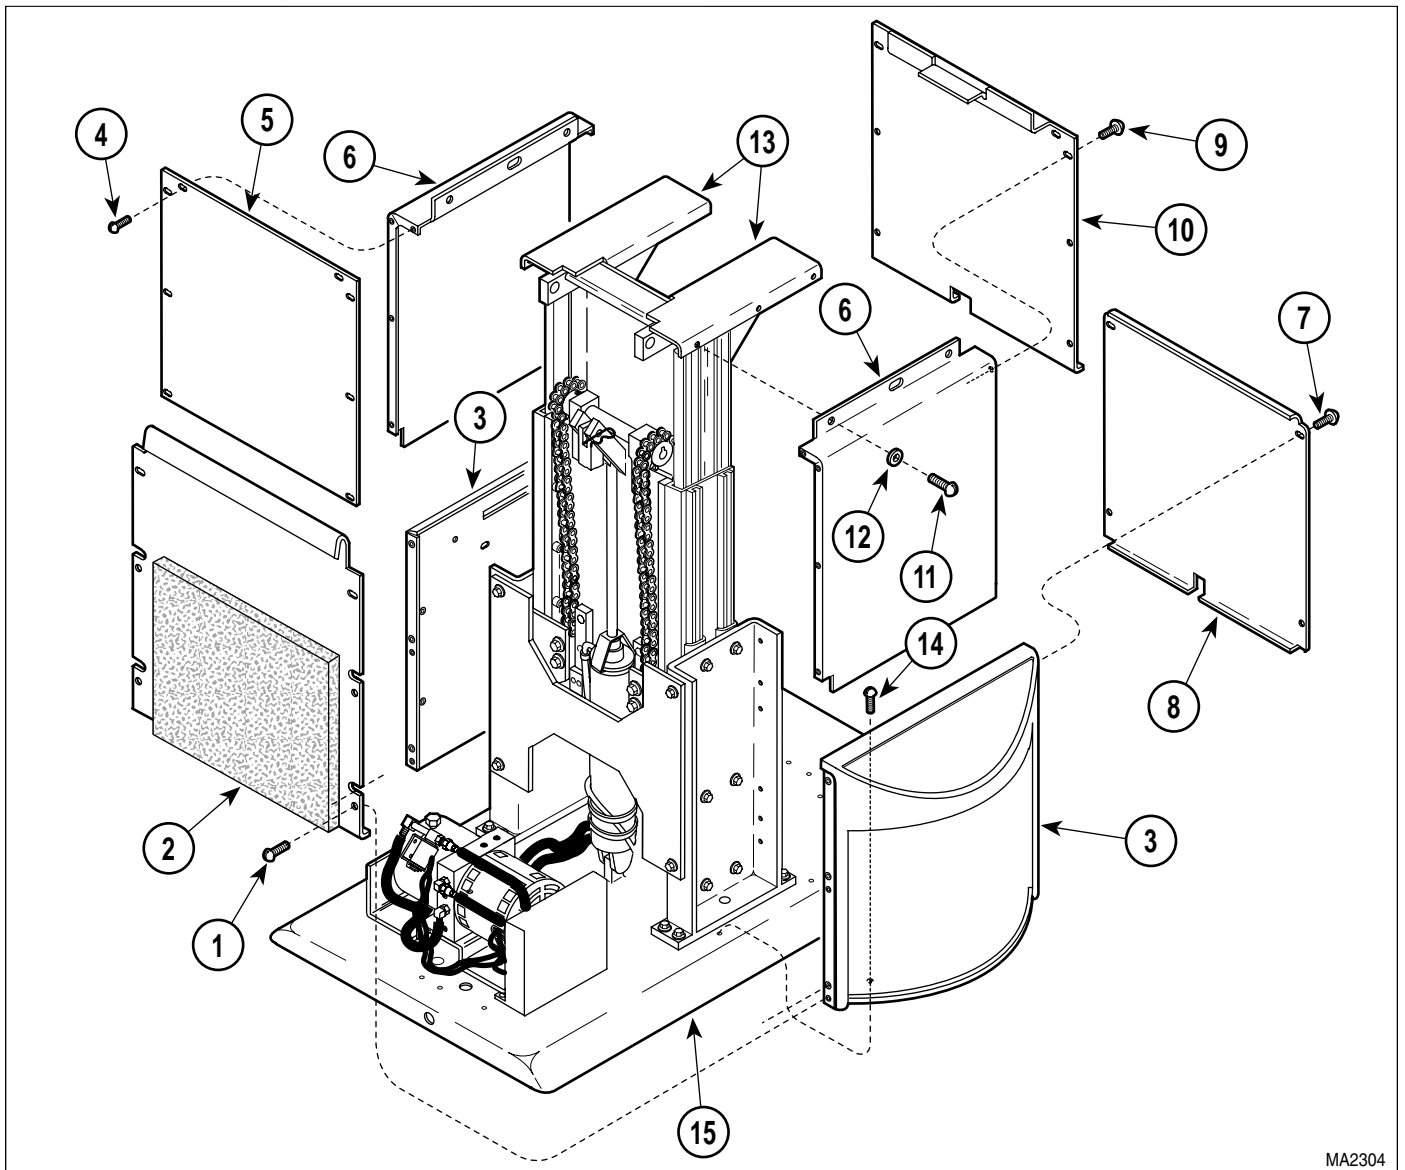

Figure 4-29. Shrouds Removal / Installation
- (1) If possible, raise TABLE UP function all the way up.
- (2) Move the back, seat, and foot sections of the table top to a horizontal position.
- (3) Unplug table power cord from outlet.
- (4) Remove motor cover assembly (Refer to para 4.2).
- (5) Remove four screws (1, Figure 4-29) and back outer shroud (2) from left and right hand outer shrouds (3).
- (6) Remove eight screws (4) and back inner shroud (5) from left and right hand inner shrouds (6).
- (7) Remove four screws (7) and front outer shroud (8) from left and right hand outer shrouds (3).
- (7) Raise BASE UP function until base slide assembly (7) is aligned with seat weldment (18). Secure base slide assembly to seat weldment with two tilt pivot pins (6).
- (8) Secure tilt pivot pins (6) in place by tightening four setscrews (5).
- (9) Install base of tilt cylinder (3) on bracket (4) and secure with clevis pin (2) and two E-rings (1).
- (10) Remove supports from under head section and foot section of table top.
- (11) Install left and right hand outer shrouds (3, Figure 4-29) on base weldment (15) and secure with six screws (14).
- (12) Install left and right hand inner shrouds (6) on base slide assembly (13) and secure with six washers (12) and screws (11).
- (13) Install front inner shroud (10) on left and right hand inner shrouds (6) and secure with eight screws (9).
- (14) Install front outer shroud (8) on left and right hand outer shrouds (3) and secure with four screws (7).
- (15) Install back inner shroud (5) on left and right hand inner shrouds (6) and secure with eight screws (4).
- (16) Install back outer shroud (2) on left and right hand outer shrouds (3) and secure with four screws (1).
- (17) Install motor cover assembly (Refer to para 4.2).
- (18) Plug table power cord into outlet.